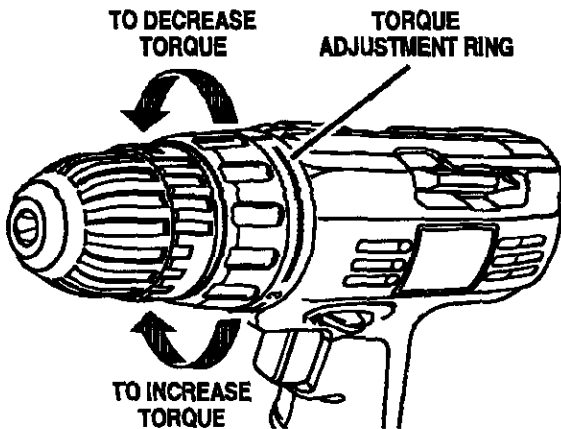

Fig. 7
The torque is adjusted by rotating the torque adjustment ring. See Figure 7. The torque is greater when the torque adjustment ring is set on a higher setting. The torque is less when the torque adjustment ring is set on a lower setting.
- Identify the four torque indicator settings located on the front of your drill. See Figure 7.